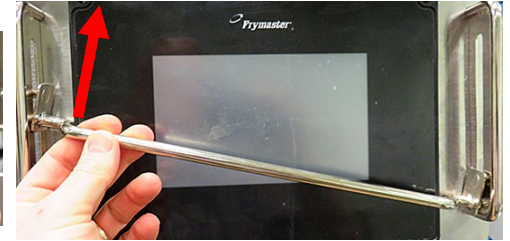

Figure 10
3. Slide one end of the guard up the rail at an angle until it can be removed if applicable (see Figure 10) and discard.